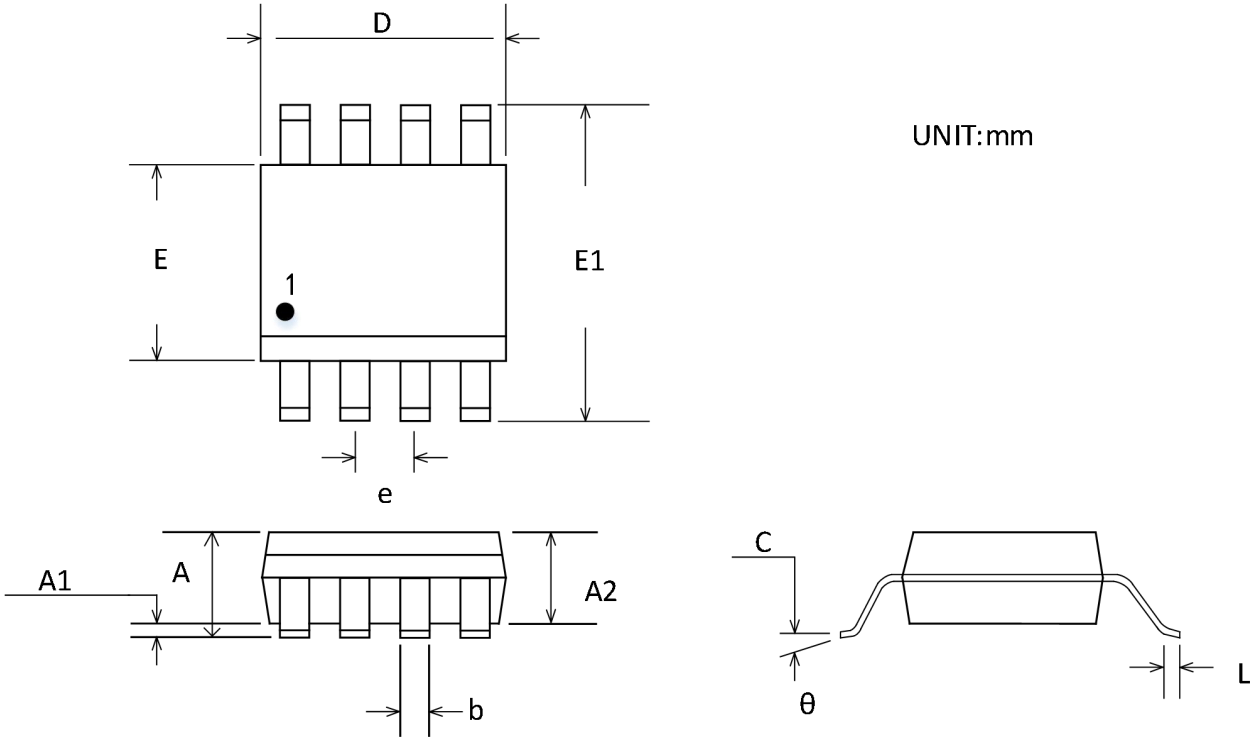

Figure 6 . 8-Lead Outline Package [MSOP-8]
The time and calendar information is obtained by reading the appropriate register bytes. See Figure 6 for the RTC registers. The time and calendar are set or initialized by writing the appropriate register bytes. The contents of the time and calendar registers are in the BCD format. Bit 7 of Register 0 is the clock halt (CH) bit. When this bit is set to 1, the oscillator is disabled. When cleared to 0, the oscillator is enabled. The clock can be halted whenever the timekeeping functions are not required, which minimizes VBAT current (IBATDAT) when VCC is not applied.